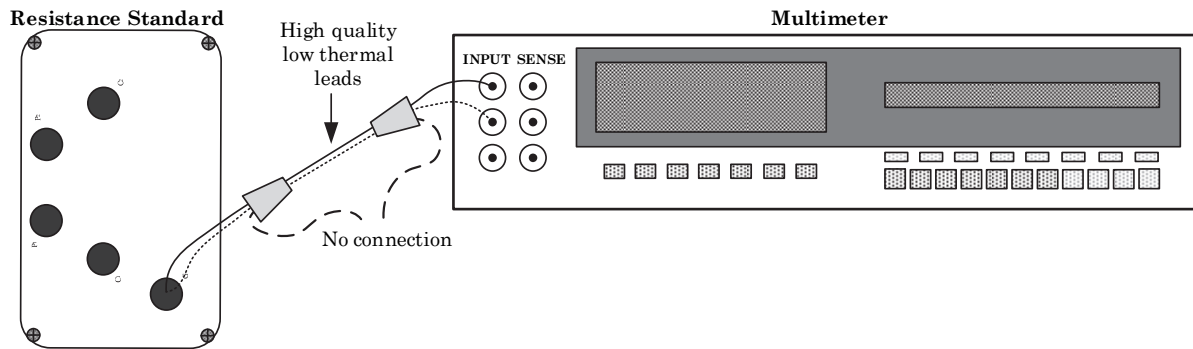

Figure 3. DCV Multimeter Zeroing Connection.
(1) Prepare multimeter for zeroing by shorting leads on a low thermal binding post such as that shown in figure 3.